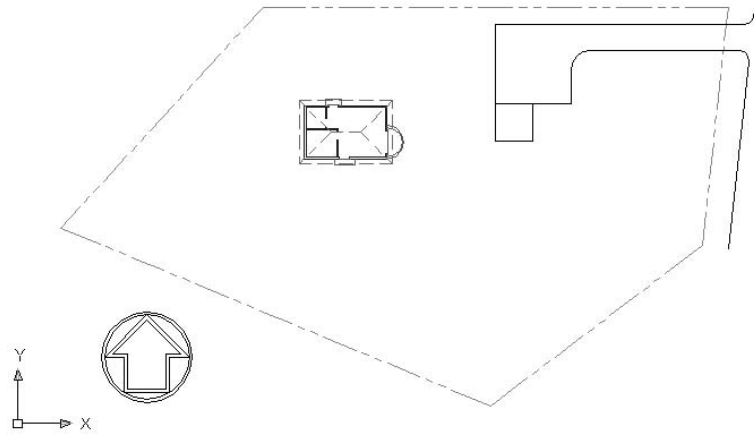

FIGURE 12.8: The site plan with most of the cabin layers frozen
8. Click OK to close the dialog box and view the drawing (see Figure 12.8).